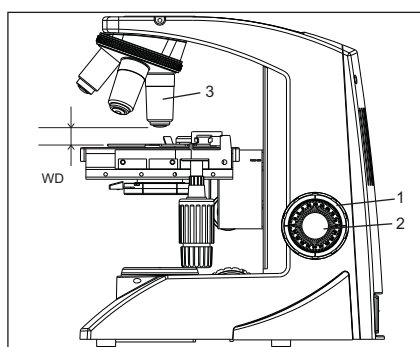

Fig. 19
1. Rotate the coarse adjustment knob (1) clockwise so that the objective (3) is as close as possible to the specimen (We recommend starting with 10X). See figure 19.
2. While observing the specimen through the eyepieces, slowly rotate the coarse adjustment knob (1) counterclockwise to lower the stage.
3. When coarse focusing of the specimen is obtained (an image is detected), rotate the fine adjustment knob (2) for fine focusing.
**Working Distance (WD)**